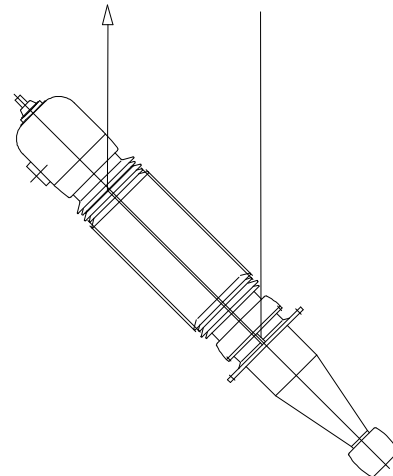
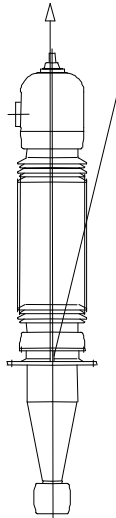

Fig. 11c
Fig. 11d
- Handle with the two tackles in order to bring the bushing to the vertical position (fig. 11c and 11d).
Lift the bushing (fig. 11d) and operate with the two tackles in order to give the request inclination (fig. 11c).